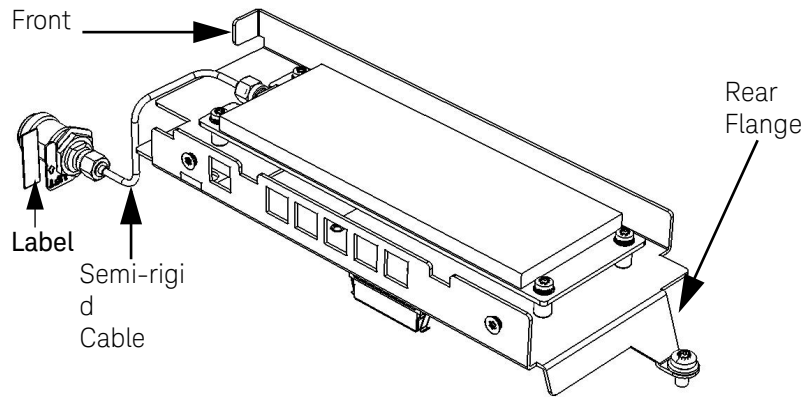
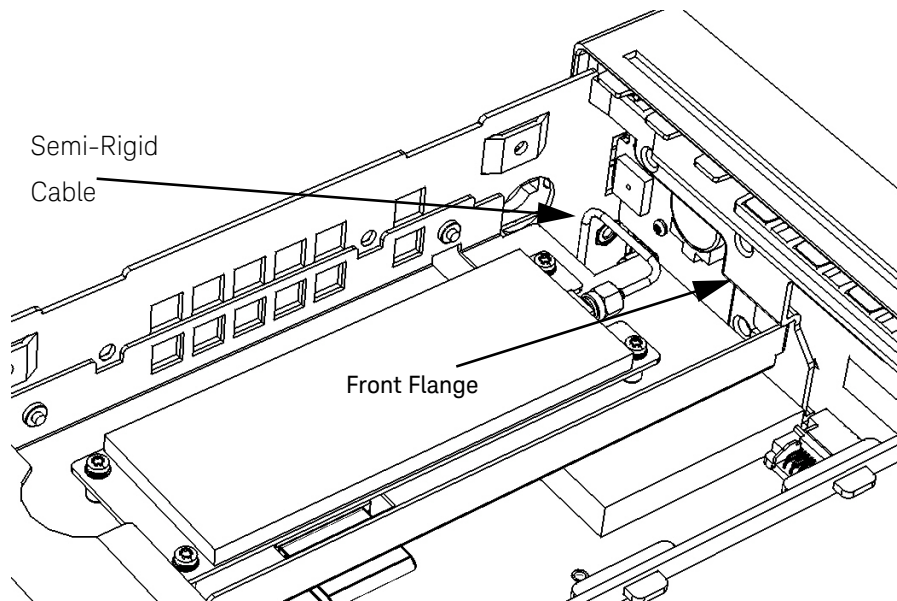

Figure 4-16 53220A/53230A Option 106/202.
Figure 4-20 Semi-rigid cable position
Refer as necessary to **Figure 4-16**.
- 13** Connect the supplied semi-rigid cable to the SMA connector on the connector-adapter. Finger-tighten the connector so that the cable is positioned to connect to the Channel 3 assembly as shown in Figure 4-16 and Figure 4-20. Do not tighten the nut with a wrench yet.
Be sure the flange on the front of the Channel 3 assembly is positioned over the tab on the front panel. Refer to Figure 4-20.